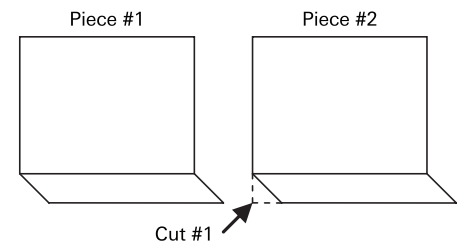

Figure 6
5. After cutting the second piece of base, turn the piece front side down and make a back angle cut in the toe, starting at the top of the toe and cutting down to the bottom of the toe. (See Figure 6: Cut #1)